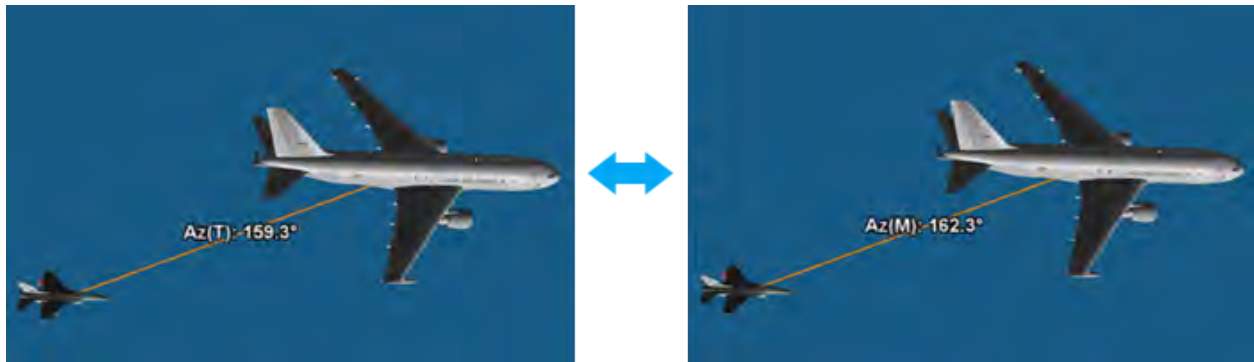

Figure 5.70: Switching Templates
20. Press the hot keys Alt + 1 and Alt + 2 will switch between the **Magnetic** and **True** templates respectively, shown in Figure 5.70.